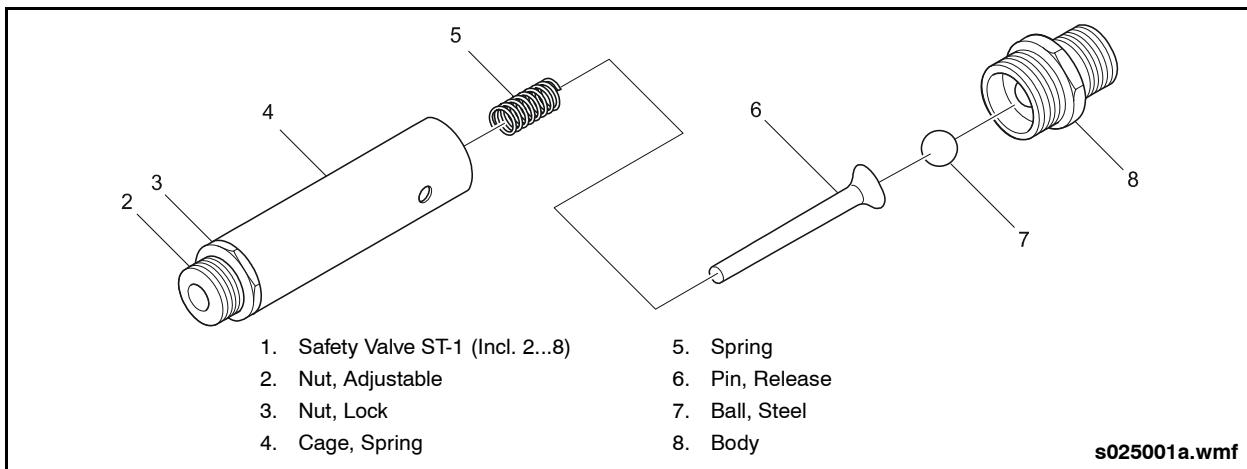

Fig. 8-10: Safety Valve Assembly
2. Using upper wrench flat, unscrew lock nut. Unscrew and remove spring cage from body of valve. See "Fig. 8-10: Safety Valve Assembly" on page 46.